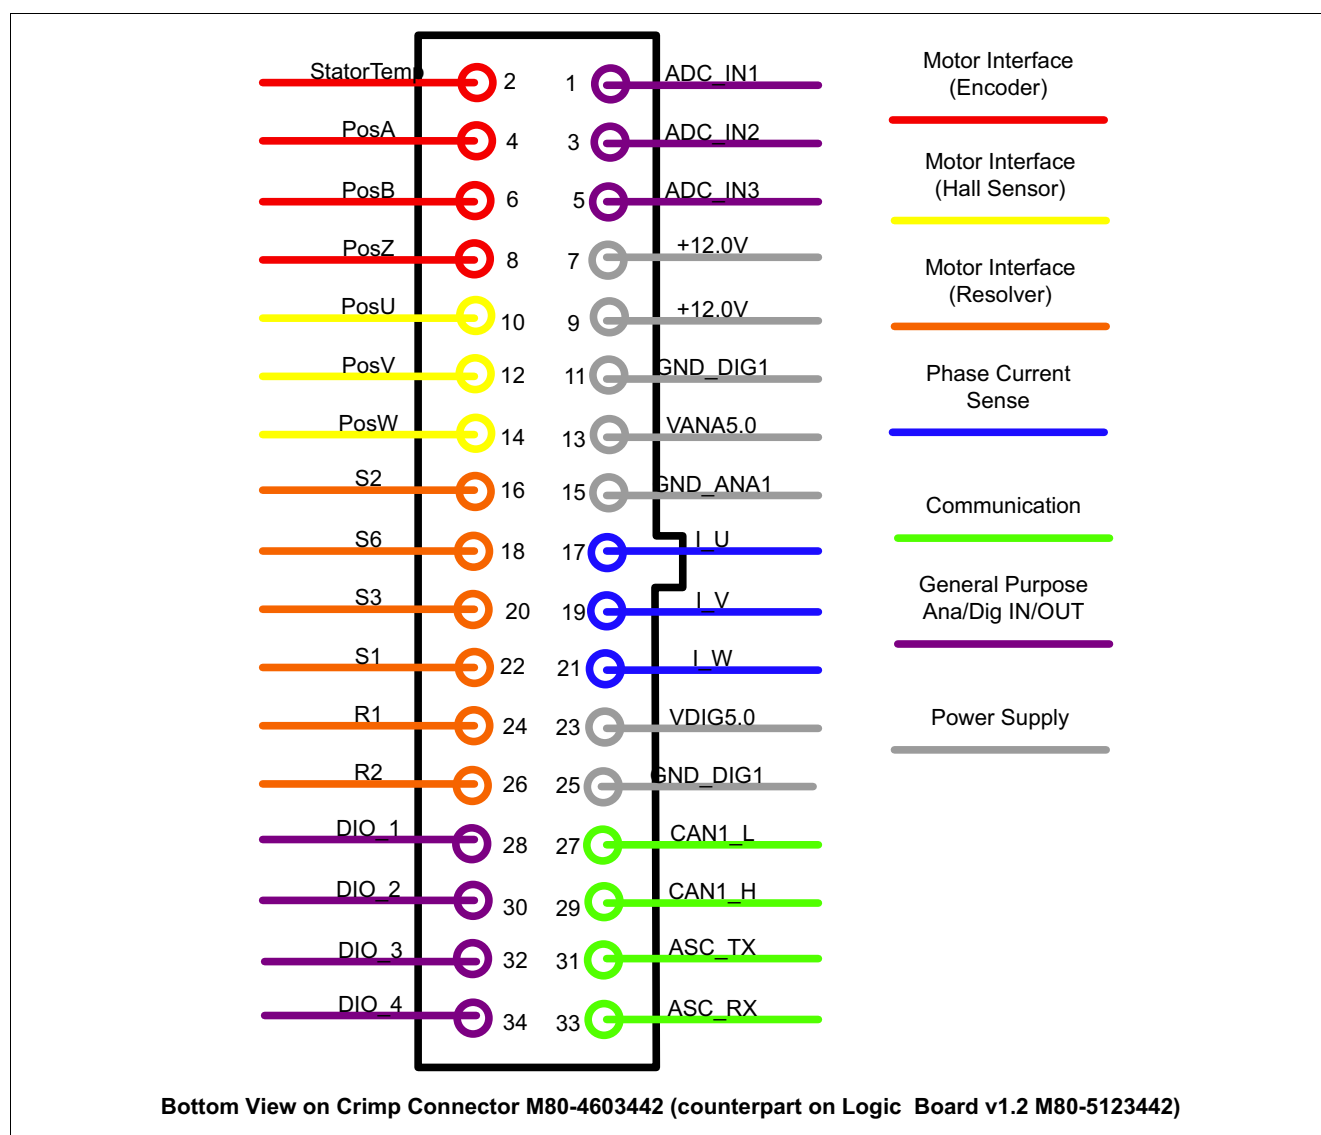
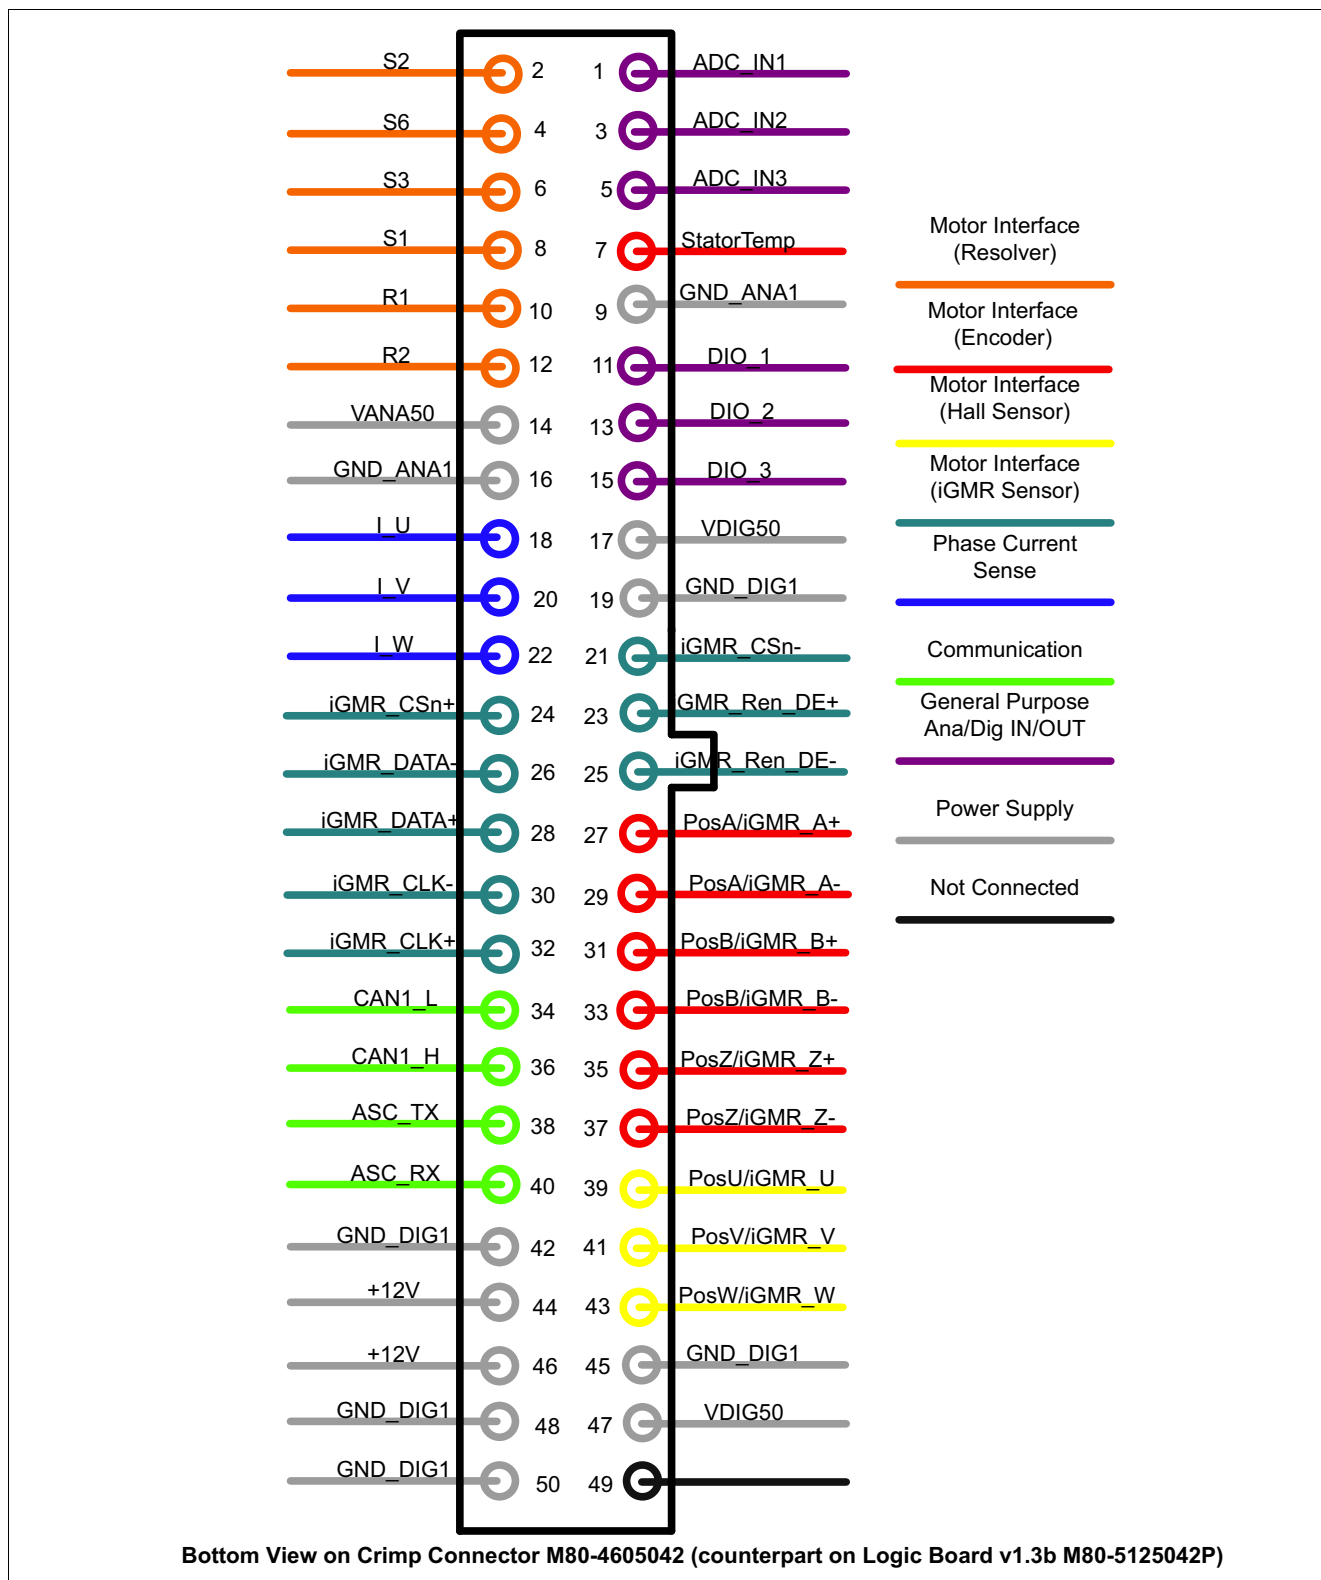

Figure 50 External Connector Pin Assignment Logic Board v1.2
Figure 51 External Connector Pin Assignment Logic Board v1.3b
- Due to added differential signaling and GMR interface the external interface 34-pin connector is replaced with 50-pin connector; (Figure 50 and Figure 51);
Logic Board external connector X1-SIG1 (Harwin M80-5123442 on Logic Board v1.2) or K2 (Harwin M80-5125042P on Logic Board v1.3b) provides the interface to all the external systems: motor (encoder, resolver, Hall sensor or GMR), current sense, communication (CAN and RS232) and extra analogue and digital inputs/outputs. **Figure 50** and **Table 4** are showing the pin assignment of the connector X1-SIG1 for the Logic Board v1.2. **Figure 51** and **Table 5** are showing the pin assignment of the connector K2 for the Logic Board v1.3b. The female part for 34-pin connector Harwin M80-5123442 (Logic Board v1.2) is socket Harwin M80-4603442. The female part for 50-pin connector Harwin M80-5125042P (Logic Board v1.3b) is socket Harwin M80-4605042.